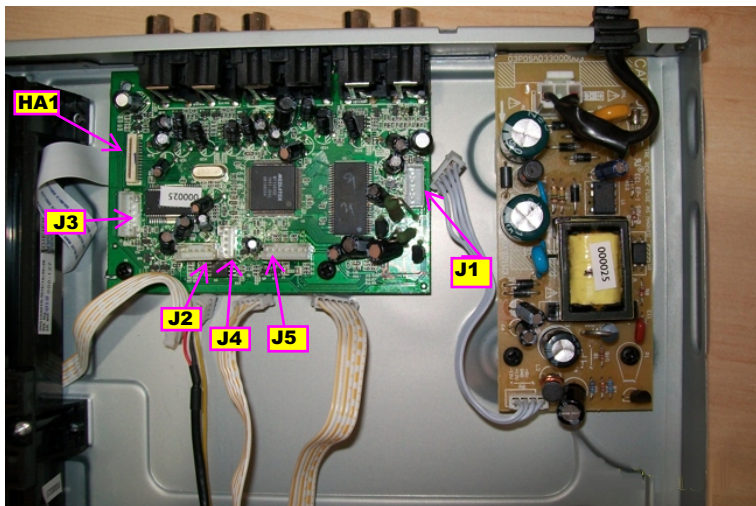
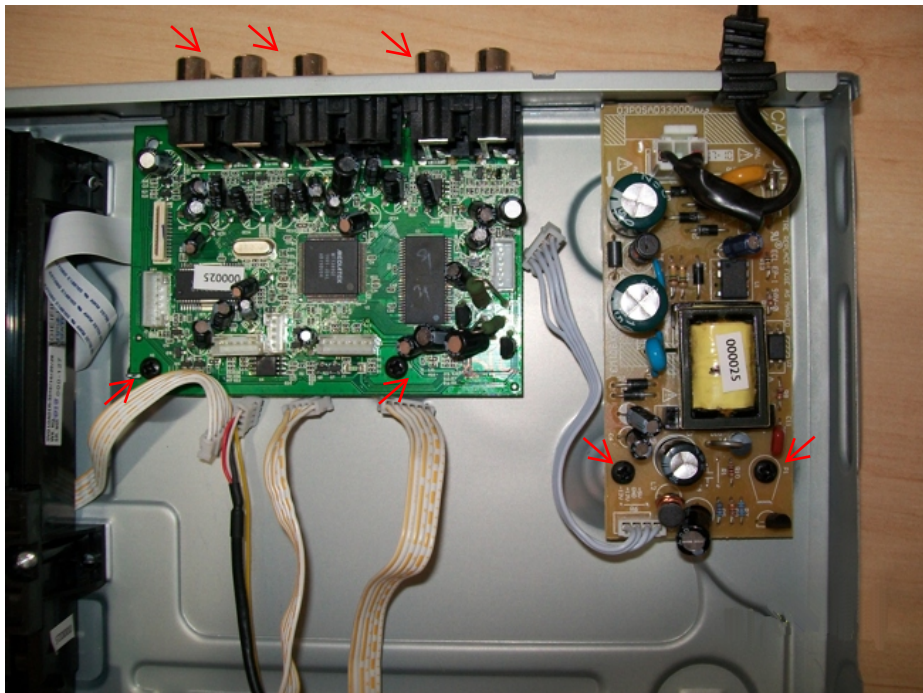

Figure 4
Figure 6
Step4: Dismantling Front Panel , disconnect the connectors (J4 , J5), need release 4 snaps of Front Panel & 2 snaps of bottom cabinet, then gently pull the Panel out of the set. (Figure 4-Figure 6)
Step6: Dismantling Main Board, first disconnect the connector J1 and then remove 5 Screws. (Figure 6)
Step7: Remove the 2 screws on Power Board to dismantle the Power Board. (Figure 6)